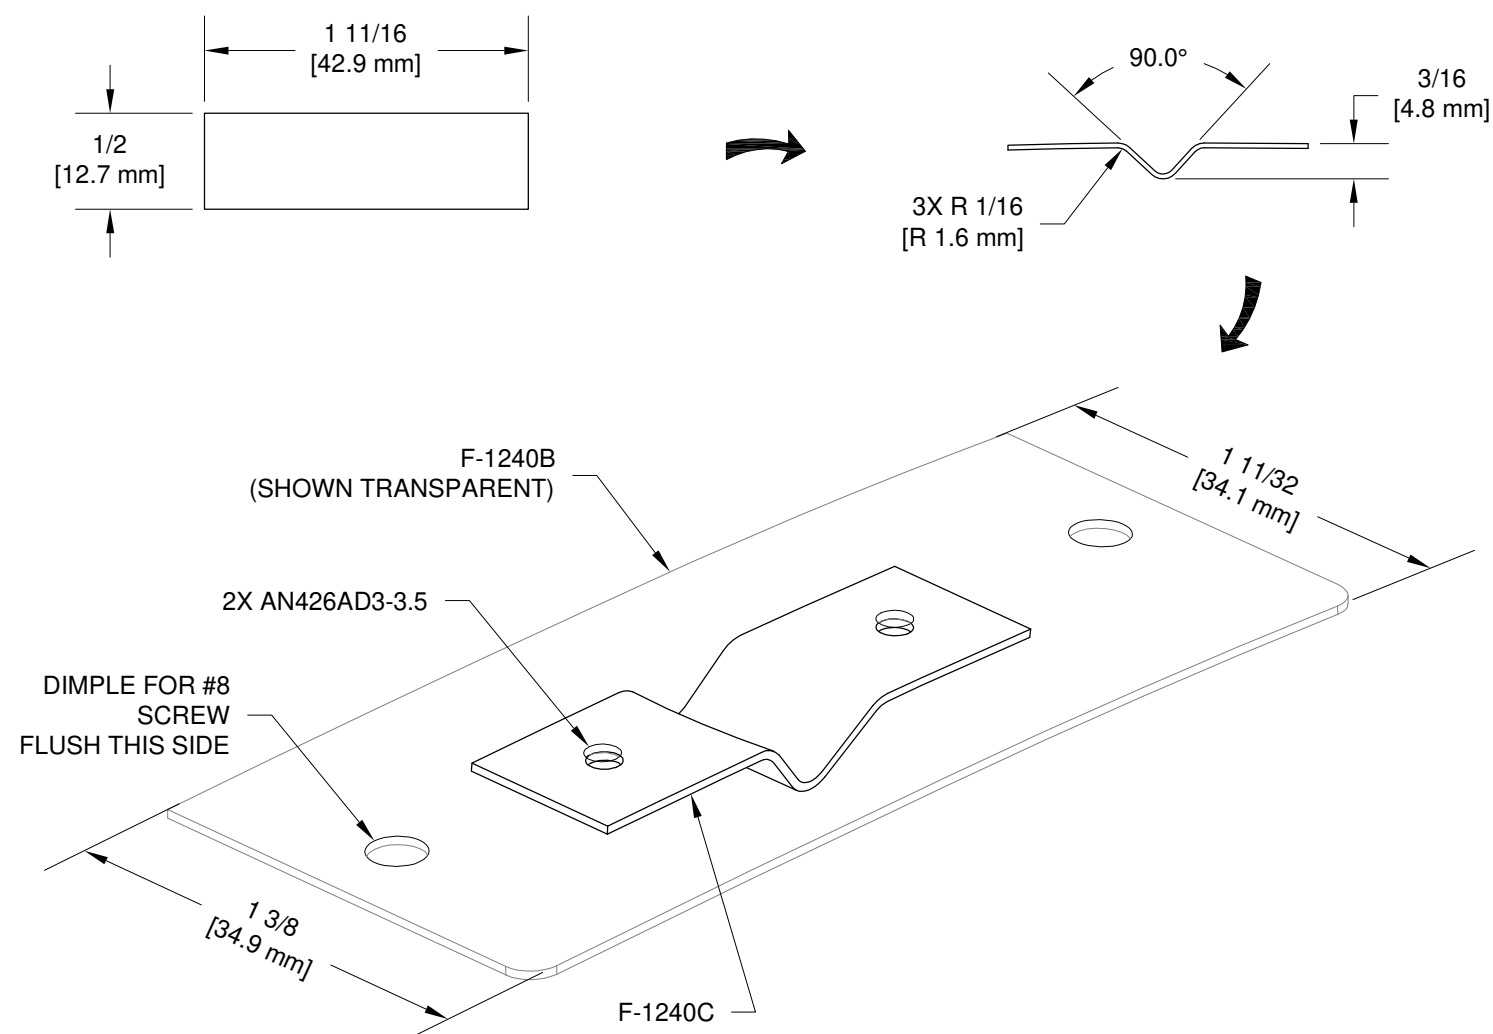

FIGURE 2: MAKING THE F-1240C CLIP
Step 8: Fabricate the F-1240C from the provided AS3-025 material as shown in Figure 2.
Step 11: Rivet the F-1240C to the F-1240B. See Figure 2.